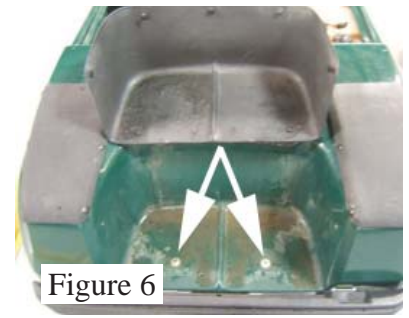

Figure 6
5. Remove the two black plastic scuff pads in the floor of the bag well. Remove the two exposed body bolts on the floor of the bag well. (See Figure 6).